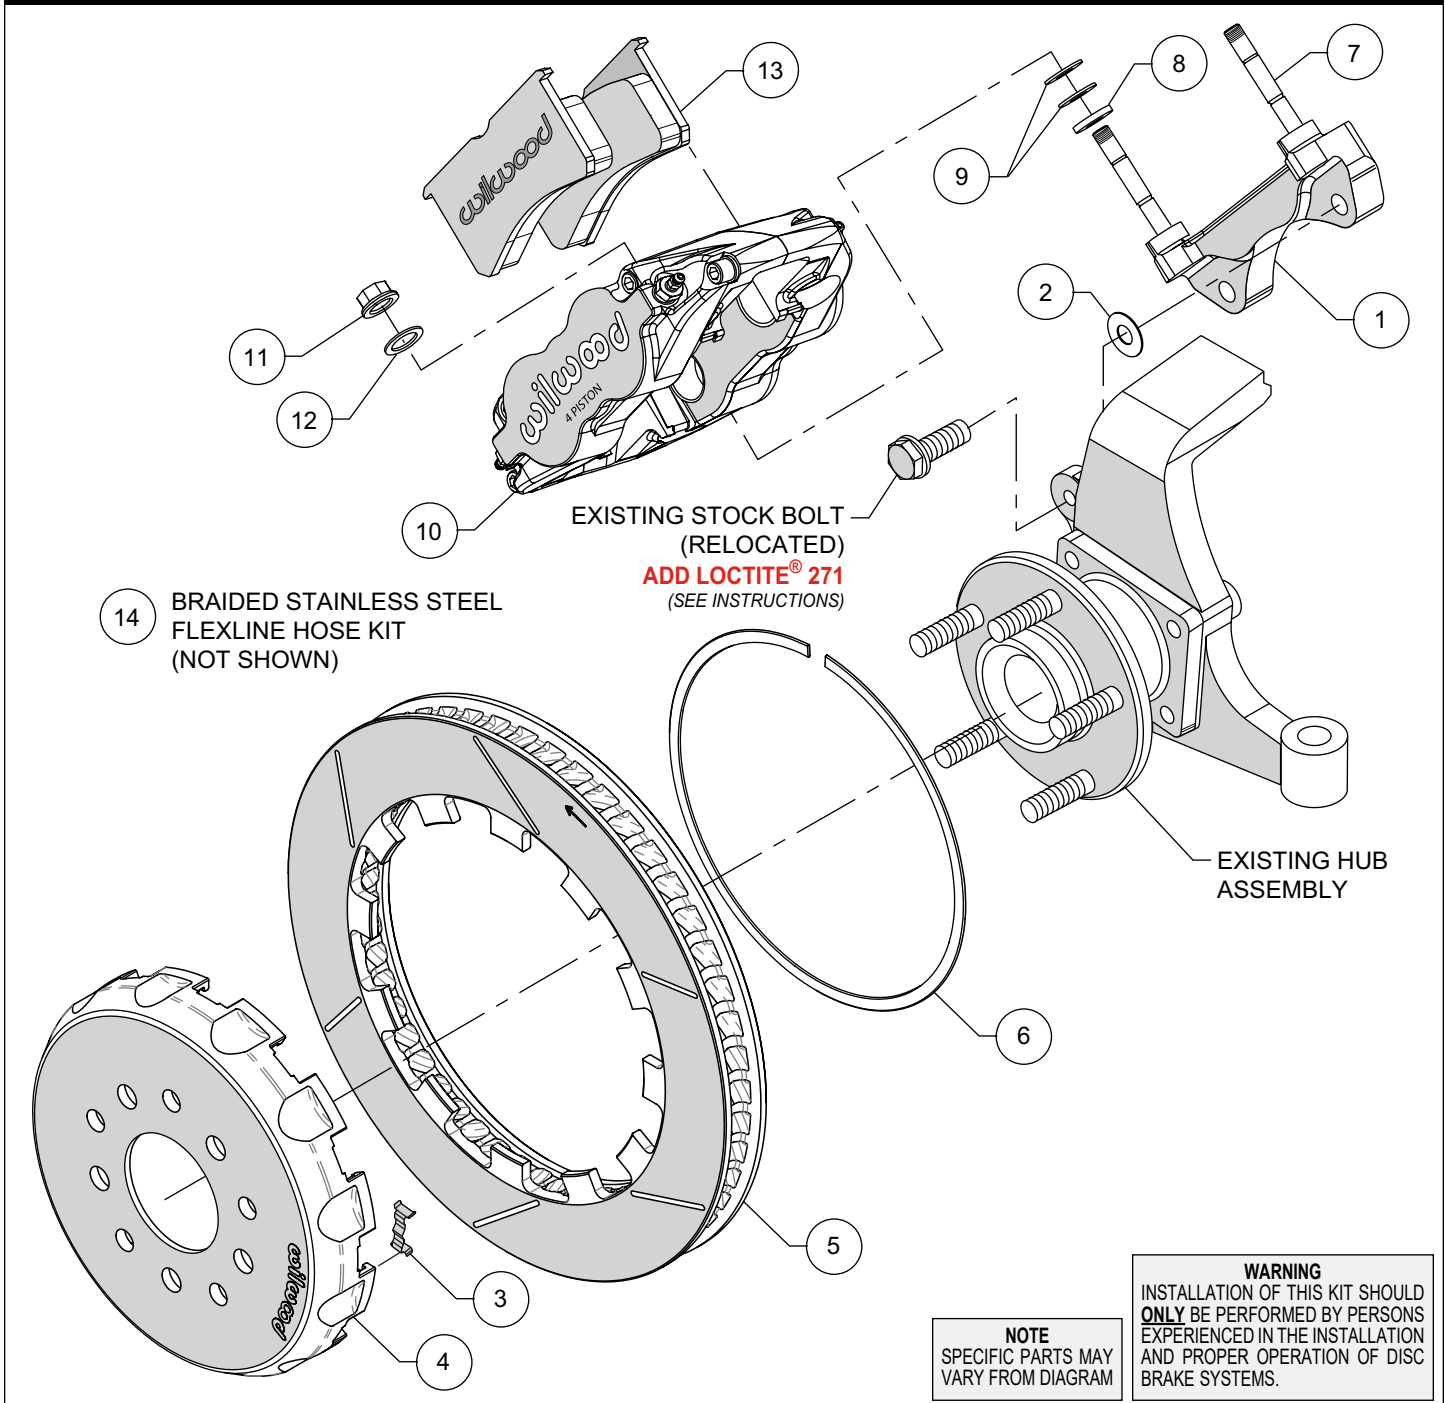

Figure 1. Typical Installation Configuration
**NOTE:** Numbers in parenthesis refer to the parts list and Figure 1 on the preceding pages.
- The caliper mount bracket (1) should initially be installed with clean, dry threads on the mounting bolts. Orient the bracket as shown in Figure 1 and Photo 1. Install using OEM bolts. Initially place one .033 thick shim (2) on each bolt between the bracket and upright, Figure 1. Temporarily tighten the mounting bolts.
- Insert the dynamic mount wear clips (3) into the slots in the hat (4), Photo 2. Orient the rotor (5) as shown in Figure 1 and Photo 3, with the flush side of mount lugs facing the hat. Secure the rotor to the hat using the snap ring (6) by simultaneously pushing down on the rotor and installing the ring into the groove in the hat, as shown in Photo 4. Carefully inspect snap ring to ensure complete engagement in the groove.
•**NOTE:** This kit contains distinct right and left hand calipers that must be mounted in a specific direction, as described below. Initially place one .062" thick spacer (8) and two .035" thick shims (9) on each stud (7) as shown in Figure 1 and Photo 6. Mount the caliper (10) onto the bracket (1) using lock nuts (11) and washers (12), Figure 1. Ensure that the caliper is mounted so that the largest pistons are at the rotor exit end of the caliper, in relation to the forward rotation of the rotor. Temporarily tighten the lock nuts and view the rotor through the top opening of the caliper. The rotor should be centered in the caliper, Photo 7. If not, adjust by adding or subtracting shims (2) between the bracket and the upright. Always use the same amount of shims on each of the two mounting bolts. Once the caliper alignment is correct, remove the bracket mounting bolts one at a time, apply red *Loctite*® 271 to the threads, and torque to 60 ft-lb.
•Remove the caliper pad retainer bolt, nut, and tube from the caliper. Insert the brake pads (13) into the caliper, with the friction material facing the rotor, as shown in Photo 8. Check that the top of the brake pad is flush with the outside diameter of the rotor, Photo 9. If not, adjust by adding or subtracting shims (9) between the caliper and the bracket. After the caliper pad height is set, reinstall the pad retainer tube, bolt, and lock nut. The lock nut should be snug without play in the bolt or tube. Be cautious not to over tighten. Torque the caliper lock nuts (11) to 30 ft-lb.
•**NOTE:** OEM rubber brake hoses generally cannot be adapted to Wilwood calipers. The caliper inlet fitting is a 1/8-27 NPT. Install Wilwood's braided stainless steel flexline hose kit (14), P/N 220-6746 included with this kit. The 10mm x 1 to -3 (P/N 220-6890) male fitting installs to the stock bulkhead. Then install the straight 1/8-27 to -3 NPT (P/N 220-6956) fitting into the caliper (10), using PTFE tape on pipe threads for proper sealing to caliper. Finally, install the flexline to the two previously installed fitting. **Carefully route hoses to prevent contact with moving suspension, brake or wheel components.** **NOTE:** Wilwood hose kits are designed for use in many different vehicle applications and it is the installer's responsibility to properly route and ensure adequate clearance and retention for brake hose components.